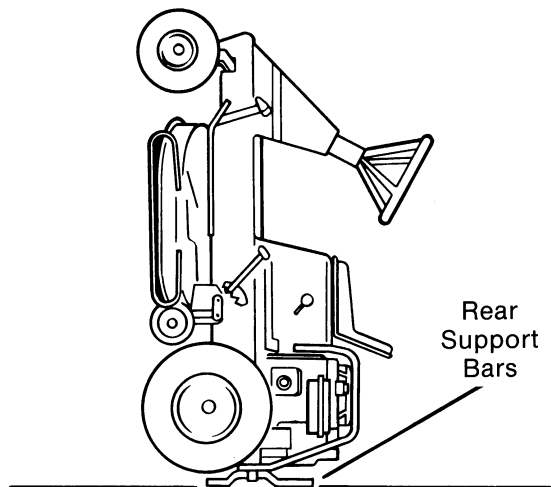

**FIG. 5**
- F. (Electric start only) Disconnect red starter wire and red alternator wire at connector at right rear corner of engine. (Fig. 5)
- H. Remove carriage bolts, washers and locknuts securing engine pulley belt guide and remove belt guide. (Fig. 5)
- F. Loosen, but do not remove, two locknuts securing engine pulley belt guide to main frame. (Fig. 5)